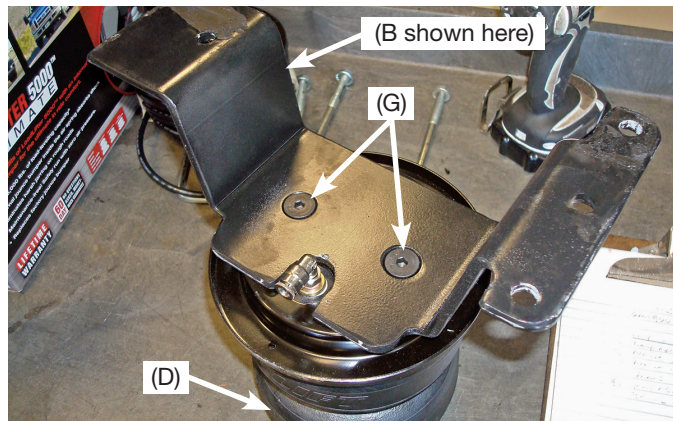

Fig. 13
3. Install the upper bracket (A or B) onto the air spring (D) using four flat-head screws (G) (fig. 13). Torque to no more than 20 lb.-ft. (27Nm).